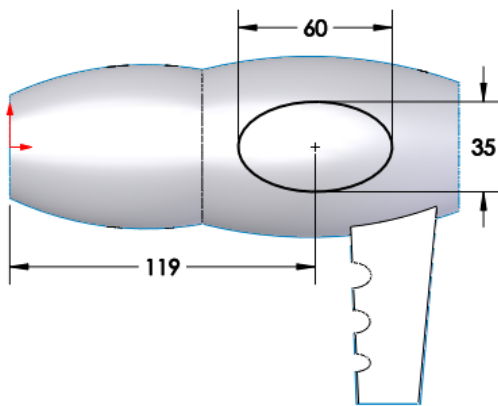

Figure 1-153 Sketch created
2. Create a sketch, as shown in Figure 1-153, and then exit the sketching environment.